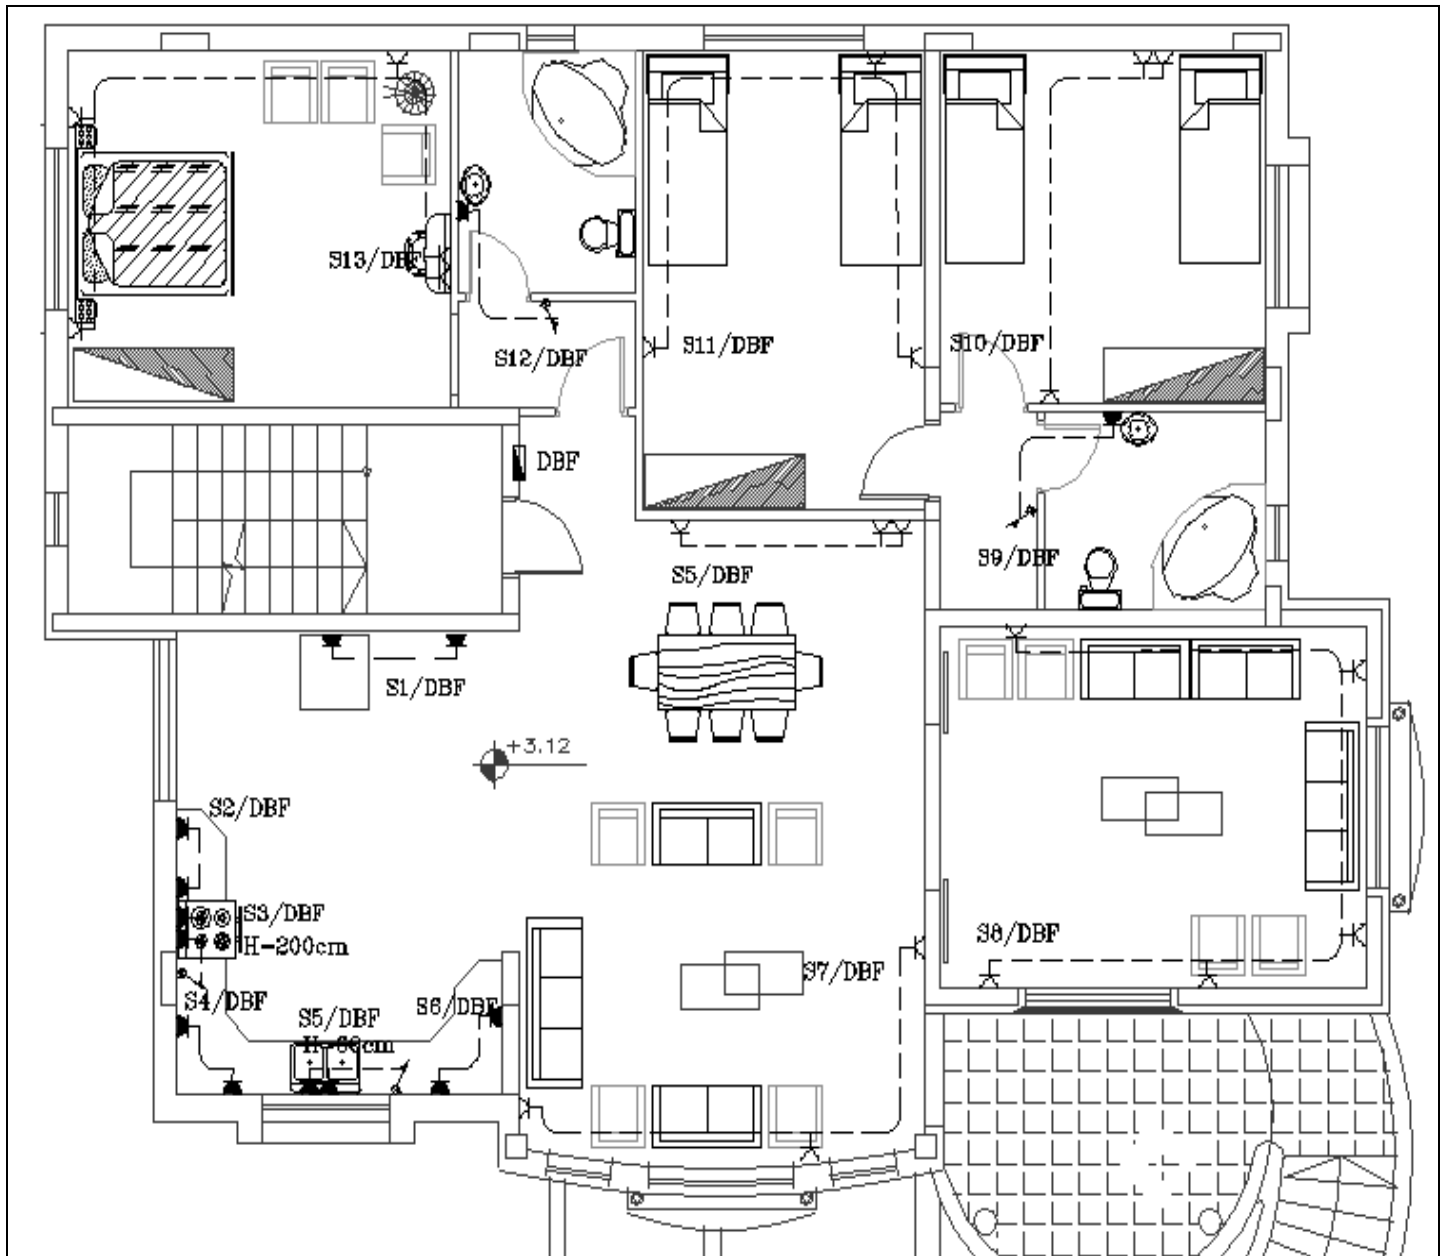

Figure 3.2 Power Plan of a house design
3. Distribute the socket outlet for Kitchen, Living room, Guest room, Bathrooms, Bedrooms and Corridors, as in Figure 3.2, then draw your distribution in the copy of the design.